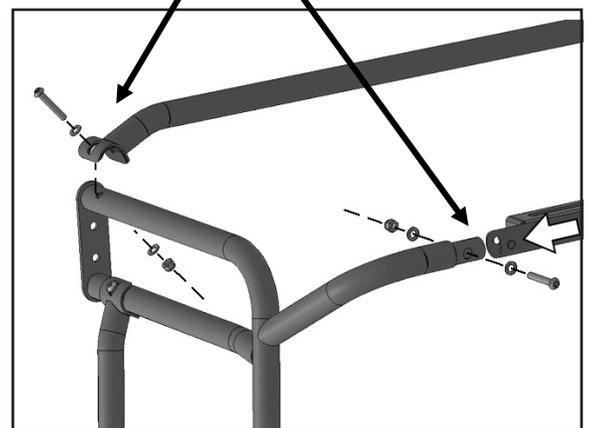

FIGURE 21
15. Attach the Rear Crossbar Tube to the driver/left and passenger/right Rear Corner Assemblies with (2) 8mm x 50mm Button Head Bolts, (4) 8mm x 16mm Small Flat Washers and (2) 8mm Nylon Lock Nuts, **(FIGURE 21)**. Attach (1) load Crossbar to the mounting holes in the top of the Corner Assemblies with (2) 8mm x 50mm Button Head Bolts, (4) 8mm x 16mm Small Flat Washers and (2) 8mm Nylon Lock Nuts, **(FIGURE 21)**.